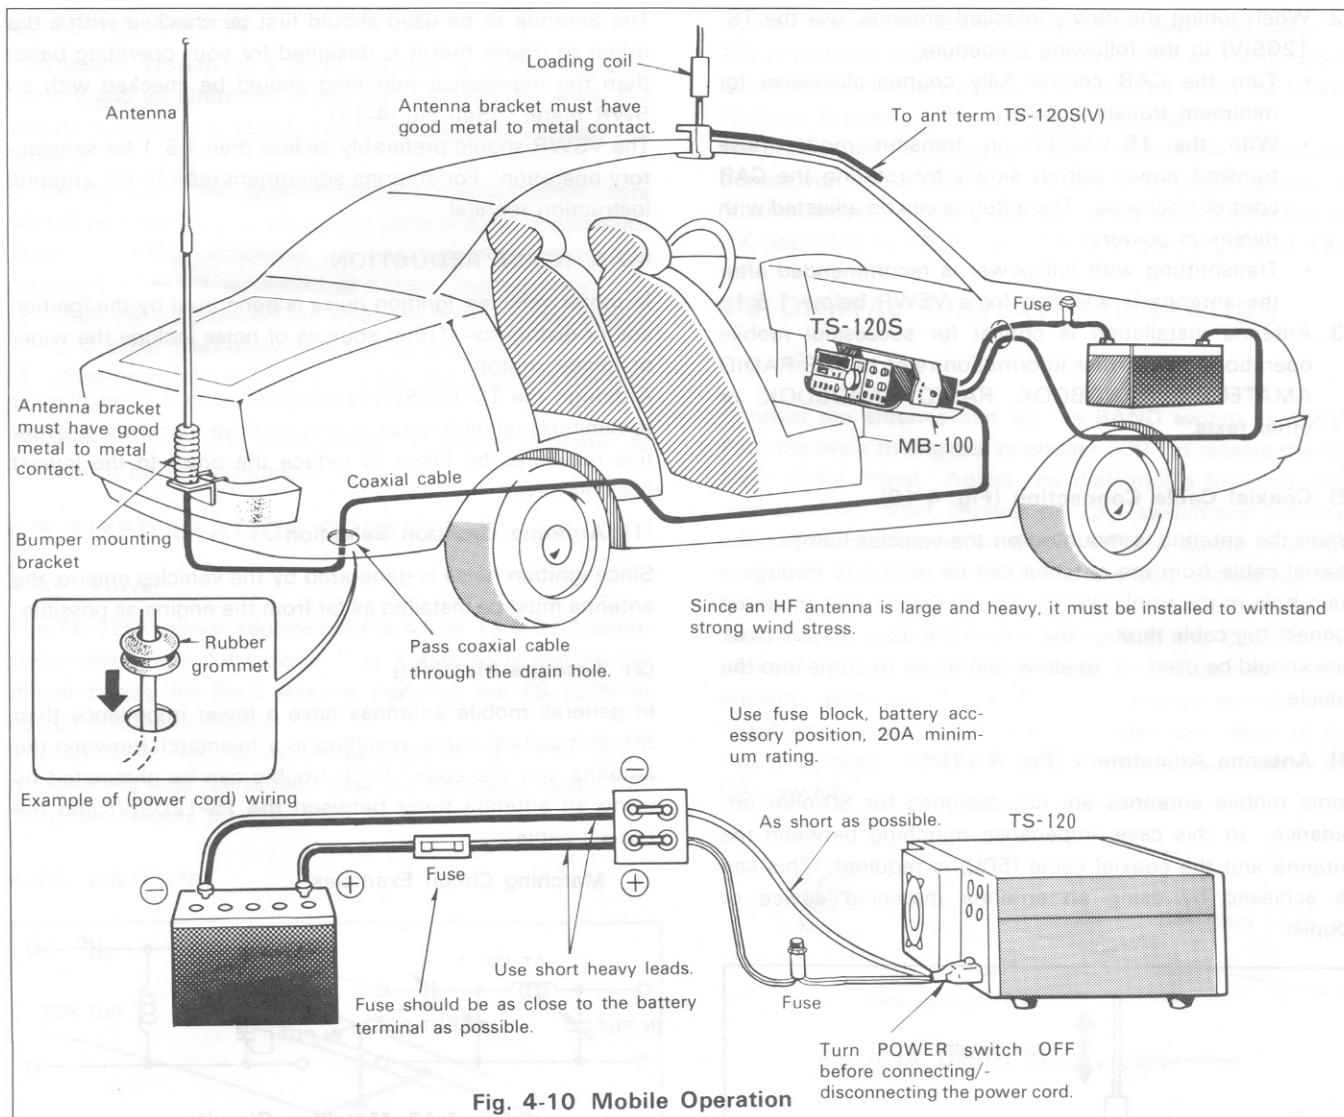

Fig. 4-10 Mobile Operation
## 4.7 MOBILE OPERATION (Fig. 4-10)
Secure the TS-120S(V) under the dashboard using an optional MB-100 mounting bracket as shown in Fig. 4-10. As an alternative, use strapping, making sure that the TS-120S(V) will not slip out of place while driving the vehicle.
Use a rugged mount for the mobile antenna because HF antennas are larger (and have more wind load) and heavier than VHF antennas. A bumper mount is recommended for general use. The ground side of the mount must be grounded perfectly to the body of the car since the body itself functions as the ground plane for the mobile antenna. (Refer to Fig. 4-10.)
### (2) Coaxial Cable Connection (Fig. 4-10)